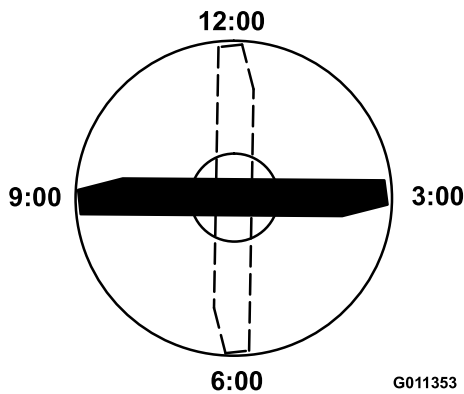

Figure 67
3. Position the cutting edge of the marked end of the blade at the 12 o'clock position (straight ahead in the direction of mowing) and measure the height from the table to the cutting edge of the blade (Figure 67).
4. Rotate the marked end of the blade to the 3 o'clock and 9 o'clock positions and measure the heights (Figure 67).